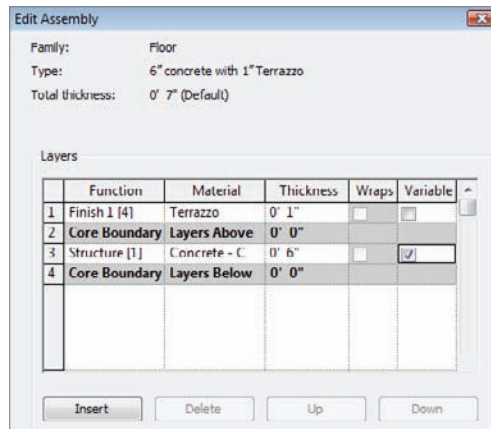

FIGURE 6.23 The completed layers for the floor system
- In the Thickness column, enter 1" (25mm). Imperial users, make sure you are typing 1 inch, and not 1 foot (see Figure 6.23).
- To the far right of the rows in the Layers field are Variable check boxes. Click Variable for the Structure row, as shown in Figure 6.23. This will enable you to slope the top of the slab if need be. Only the layer that is set to be variable will actually slope. Any layer that is on top of this variable layer will be pitched.